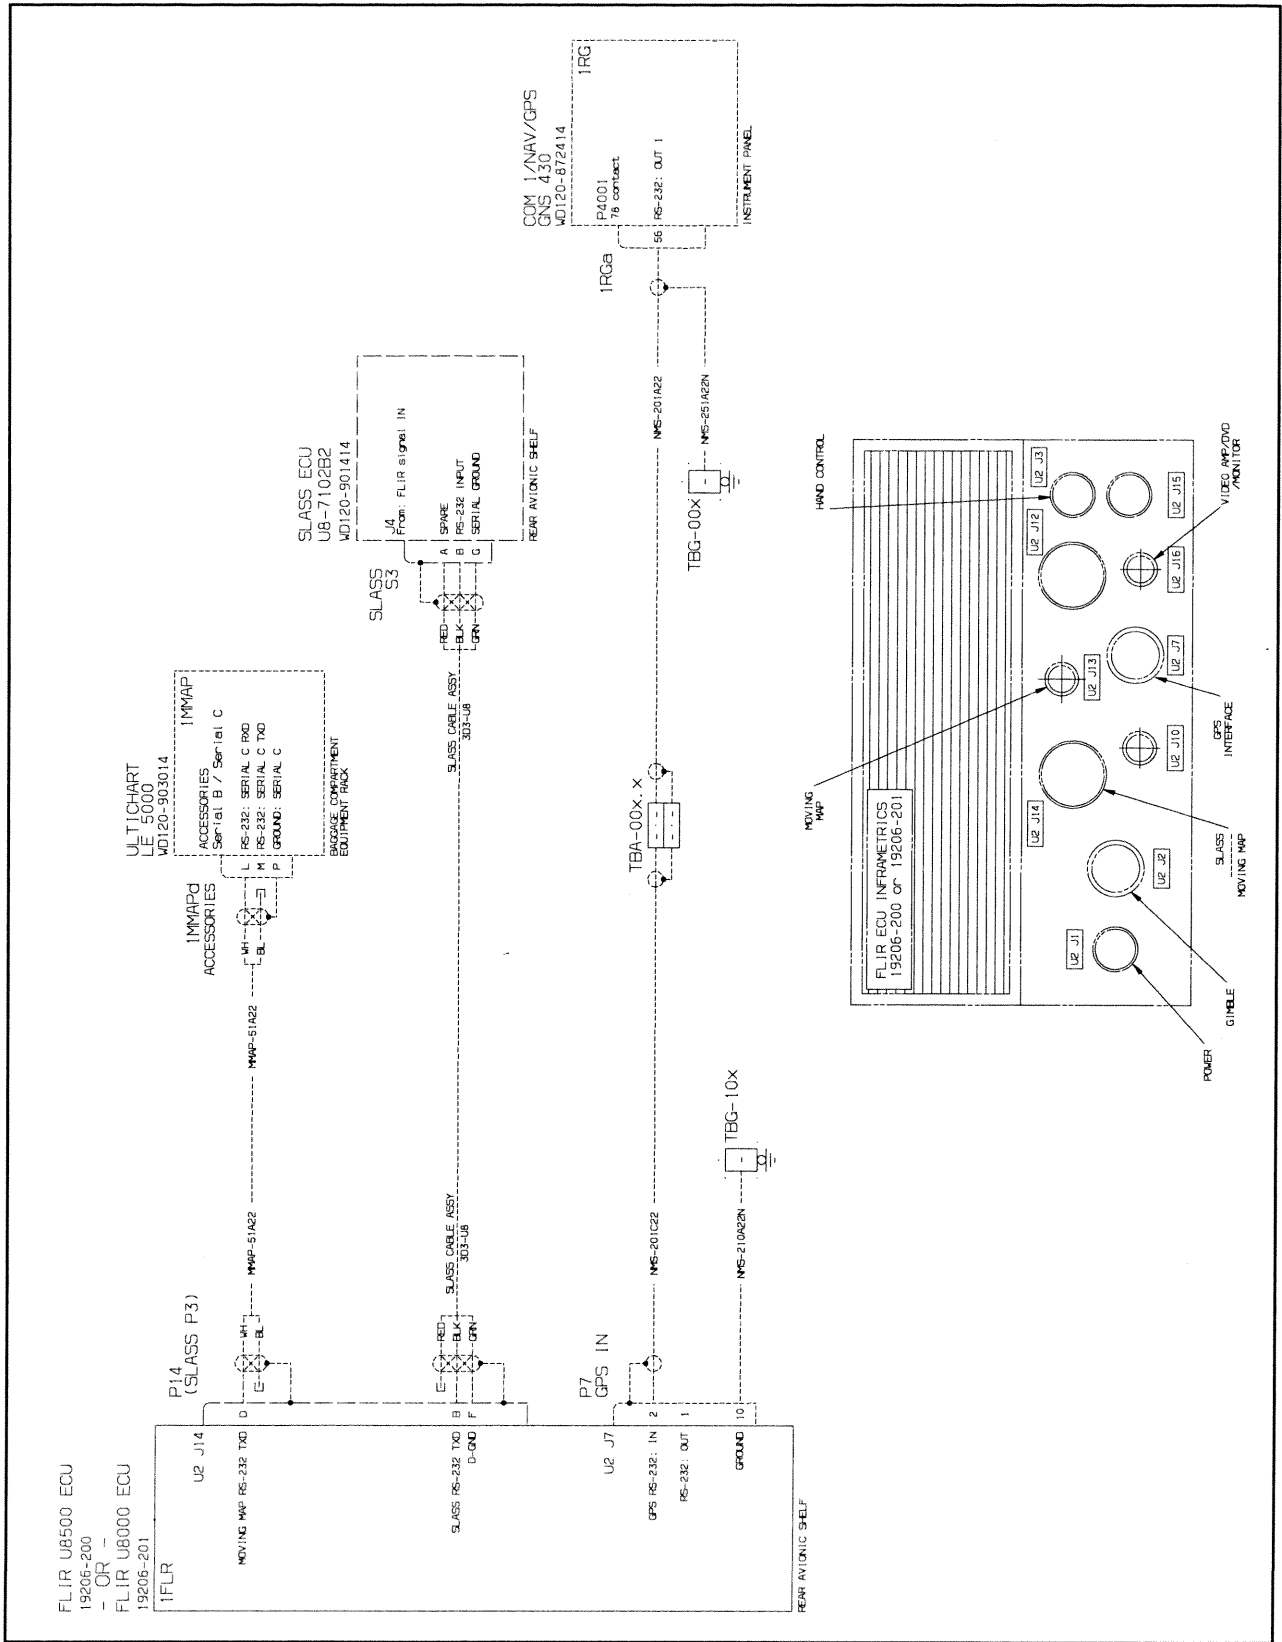

Figure 7 Wiring Diagram, FLIR switch on LACU (Sheet 2 of 2)
- open and secure FLIR and FLIR MONITOR circuit breakers before any servicing action, shown in Figure 7.